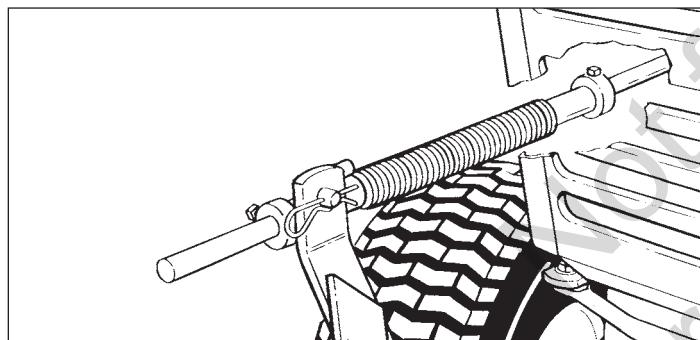

Figure 31
2. Lower the attachment and adjust the front set collar (Figure 31) to achieve the correct lift height.
2. Slide the spring (Figure 31) forward so it is against the front set collar. Slide the rear set collar up against the back of the spring. Use the rear set collar to compress the spring slightly, then tighten the set screw.